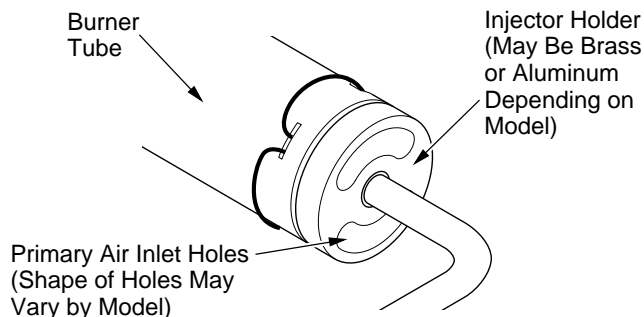

Figure 48 - Injector Holder On Outlet Burner Tube
2. Inspect burner, pilot, and primary air inlet holes on injector holder for dust and dirt (see Figures 48 and 49).